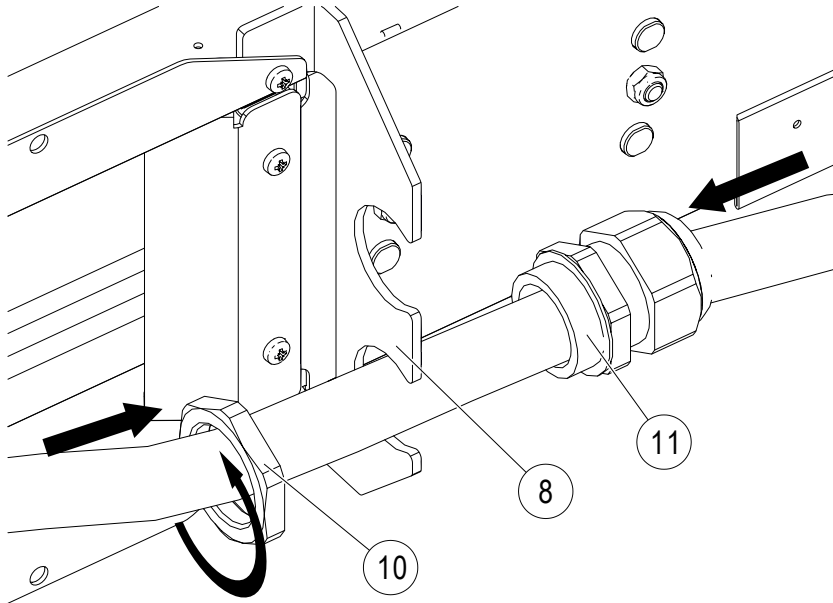

Fig. 42: Install strain relief
6. Fasten the connecting cables to the metal plates of the fastening frame (8) using the strain relief, consisting of the lock nut (10) and screw connection (11) (see Fig. 42).